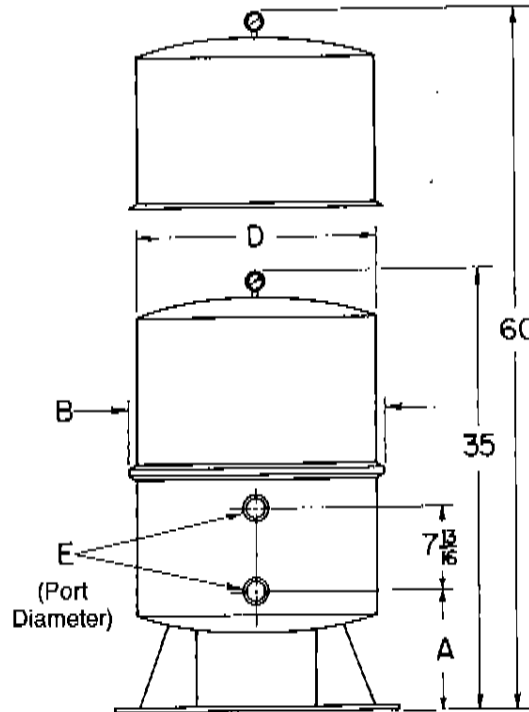

FIGURE 1A
- Provide space and lighting for easy access for routine maintenance. (See Figure 1A and Table I, Page 4, for space requirements.)